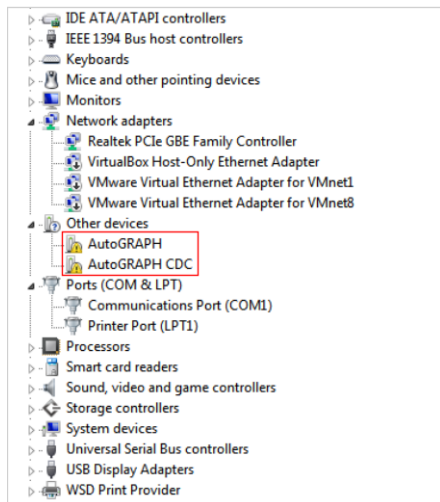

Fig.1. The device with new driver.
- When connecting the devices, those supports the new driver, system Device Manager detects two new devices: AutoGRAPH and AutoGRAPH CDC (Fig.1). If the automatic driver installation is enabled in the system settings and the Internet connection is available, the AutoGRAPH device drivers will be automatically downloaded from the Windows Update server and installed in the system. After the driver installation, the connected device will be recognized.